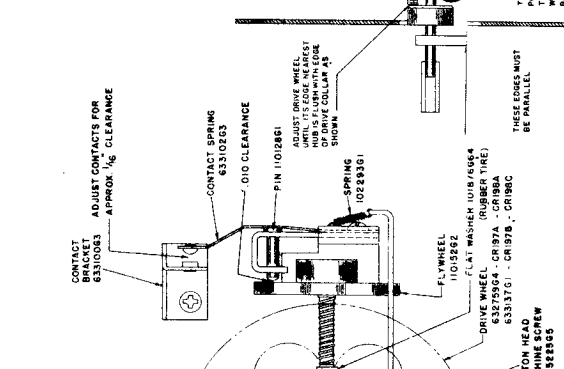
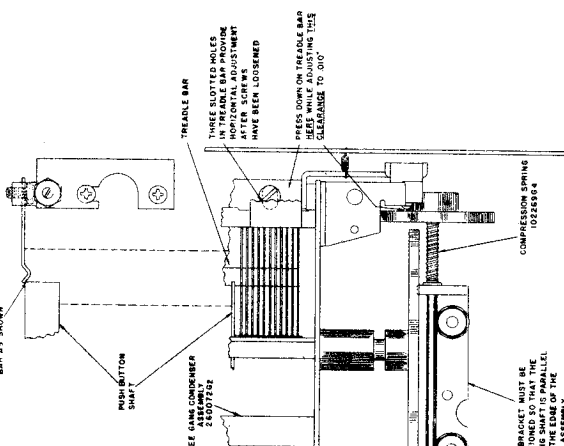

FIGURE 4
FIGURE 5
Whenever any of the mechanical parts in the condenser gang drive assembly require replacement due to rough handling or for any other reason, it is extremely important that clearances and adjustments shown on Figures 4 and 5 are correct; otherwise, the tuning mechanism will be sluggish or it may slip during operation.
1. Assemble the Tuning Shaft, Drive Collar, Compression Spring and Flywheel in the order shown on Figure 5. The distance between the front of the Drive Collar and the front of the Tuning Shaft must be 1/4 inches as specified on Figure 4. Install the Flywheel on the rear of the Tuning Shaft and slide it forward until it nearly touches the edge of the Drive Wheel; then tighten one of the set screws in the Flywheel hub. Insert a .010" gauge between the Flywheel and the Pin, and while holding the gauge in this position, loosen the set screw in the Flywheel hub that was previously tightened. The Compression Spring should force the Flywheel back against the gauge—when this occurs, tighten both set screws in the Flywheel hub.
3. The Drive Wheel is properly located on its shaft when its edge nearest the hub is in line with the outside edge of the Drive Collar as shown on Figure 5. Two Allen set screws in the Drive Wheel hub provide a means of adjusting the position of this wheel.
5. If the push button shafts at both ends do not engage the Treadle Bar as shown on Figure 5, the three screws in the Treadle Bar must be loosened and the Treadle Bar should be moved until the required condition is obtained.